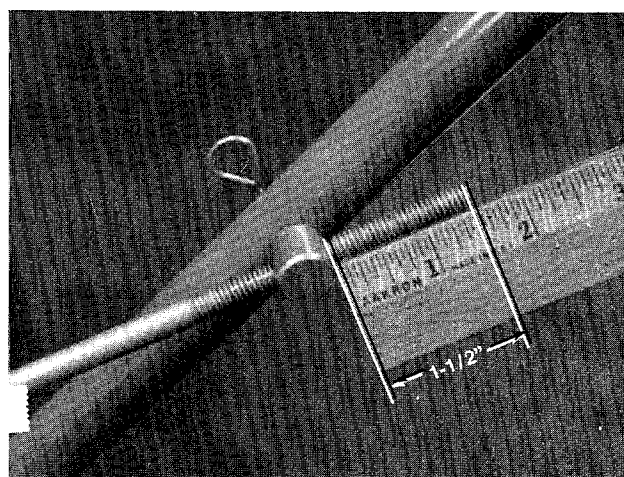

FIGURE 15
Before changing the cutting height, stop the engine and disconnect the spark plug wire. Adjustments may be made by moving the height adjustment lever on each wheel to the desired position. (See figure 15.) There are five cutting heights. All four height adjusters should be in the same relative position.
10. Figure 15 shows engagement rod setting for second highest cutting height.